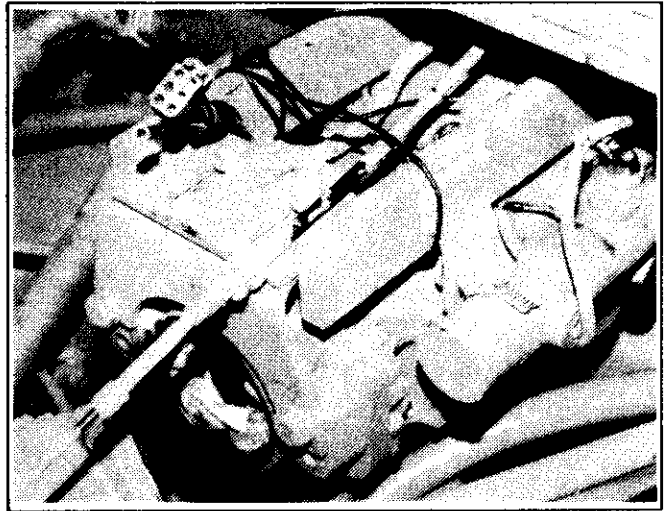

Figure 7-2
NOTE: If the double gear pump does not require servicing, leave the suction tube and the two (2) pressure hoses attached to the gear pump. Remove the two (2) bolts attaching the double gear pump to the hydrostatic transmission and pull the gear pump forward slightly to release the O-ring seal. Leaving the gear pump in the machine will save time and reduce the risk of contamination. This will also eliminate the need to drain the hydraulic reservoir, but expect to lose approximately 1 gallon of oil from the case drain. (See figure 7-2)